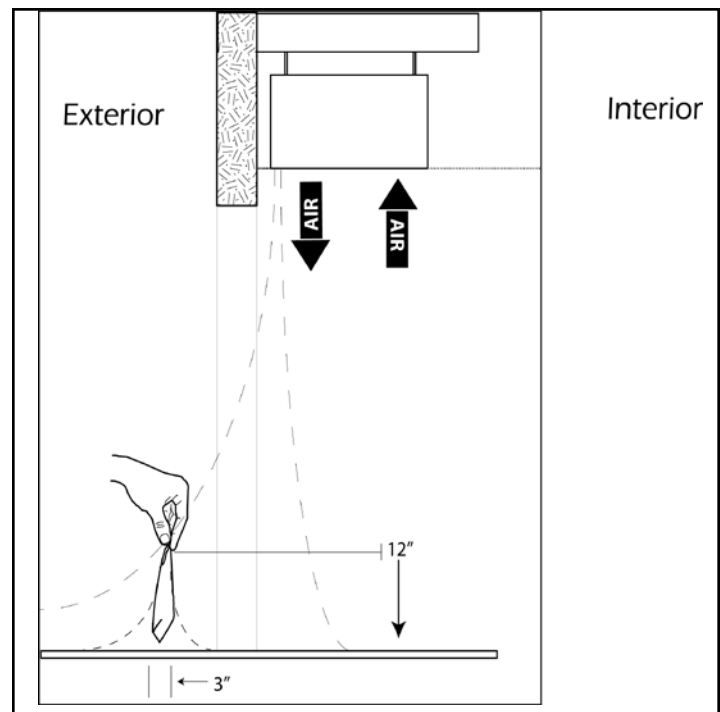

Figure 5 - Air Stream Adjustment
2. Find the air stream split location. Hold a handkerchief by its corners, approximately 12" above the floor. Gently move the handkerchief back and forth in the doorway. Make sure the air is being directed to both the inside and the outside. **See Figure 5.** The split location is indicated where the handkerchief is vertical with minimal or no fluttering.